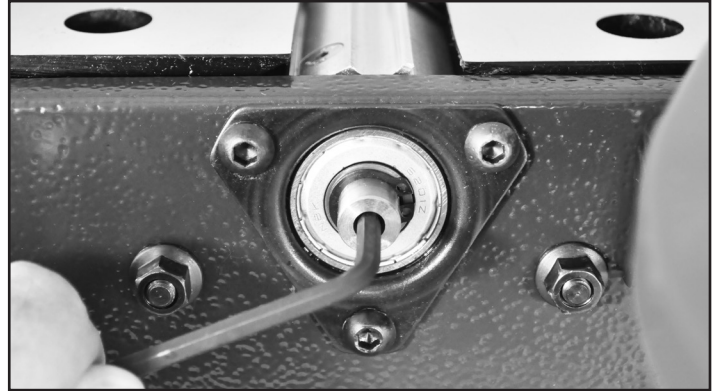

FIG. 22
2. To keep the cutterhead from rotating while working on the knives, insert the supplied hex wrench into the end of the cutterhead shaft that faces the front of the machine, under the guard's front tab. The cutterhead can then be safely rotated and positioned for changing the insert cutters. FIG. 22.
To rotate the cutterhead and keep it from moving while working on the tables, use the supplied hex wrench and insert it into the end of the cutterhead shaft that faces the front of the machine, under the guard's front tab. The cutterhead can then be safely rotated and positioned. See FIG. 22 on page 15.